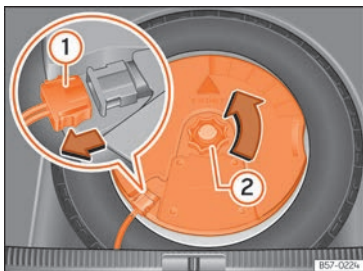

Fig. 184 In the boot: remove the subwoofer.
- Disconnect the subwoofer's speaker cable >>> Fig. 184 ①.
- Turn the securing wheel anti-clockwise >>> Fig. 184 ②.